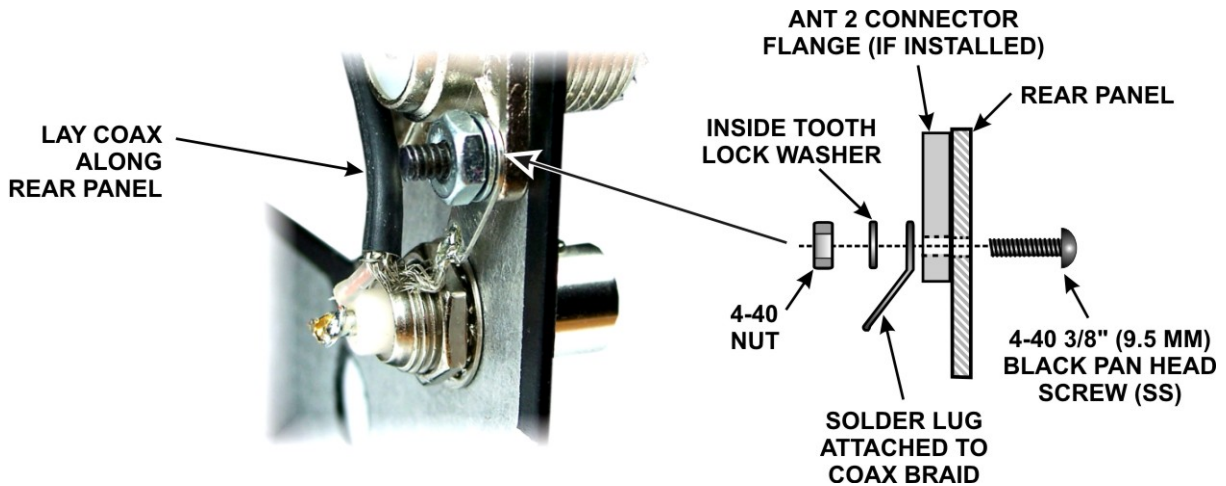

Figure 20. Installing the AUX RF Connector.
Thread the BNC/TMP cable through the AUX RF connector hole from the outside, lining up the flat on the threaded section of the connector with the flat at the top of the hole. Slide the lock washer and nut onto the cable. Fold the solder lug on the braid down against the coax to fit through the back panel hole, the lock washer and the nut. Thread the nut onto the connector and tighten it (see Figure 20).
Mount the solder lug attached to the braid as shown in Figure 20, using a 4-40 3/8" (9.5mm) black pan head screw (SS), #4 inside tooth lock washer and 4-40 nut. If you have the KAT3 option, there will be a shorter screw holding the connector flange. Replace it with the 3/8" (9.5 mm) screw. If you do not have a KAT3, there will be no connector in the ANT2 hole. In that case, the solder lug is directly against the unpainted inside surface of the rear panel.